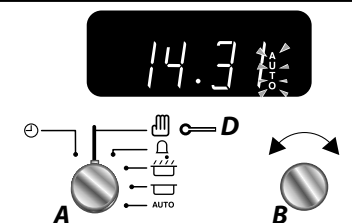

Fig. 2.30
To cancel any automatic settings turn the **Timer (A)** knob to the **Clock (C)** setting and release (**Fig. 2.30**).